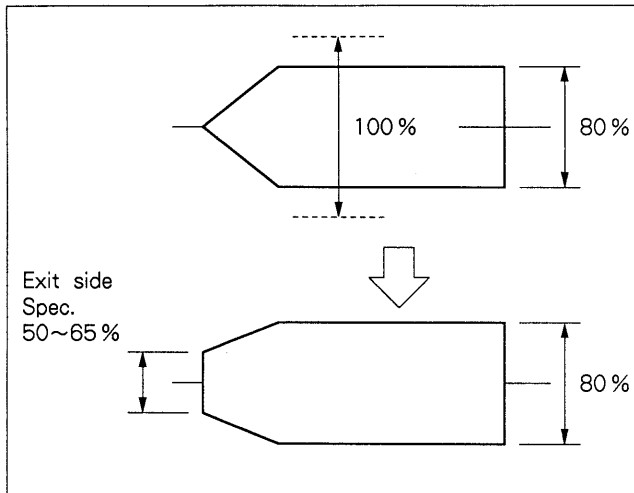

Fig. 9-5-13. Tape Exit Side RF Waveform (1)
26. Turn the cap of the guide post 3 in the clockwise direction and adjust it so that the RF waveform shown in Fig. 9-5-13 of the tape exit side meets the specification.